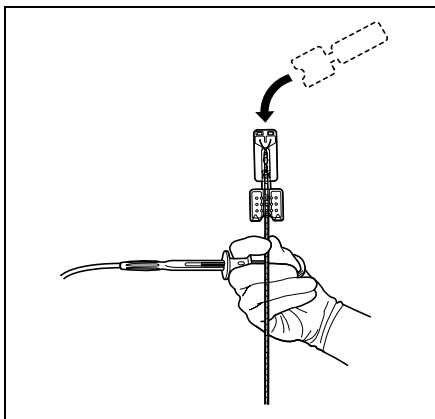

Figure 3.5
3. Place the cartridge on the coil sheath (see Figure 3.5).